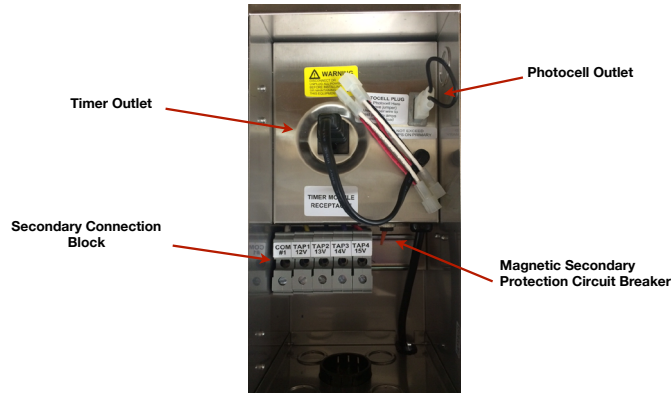

Figure 2: Voltage Drop Chart
1. 300W magnetic landscape transformer. 120V AC - 3A maximum primary voltage. Multi-volt secondary up to 15V. Large secondary connection block for easy wiring. Standard with mandatory secondary protection. Supplied with six (6) feet of the primary line cord. Timer and photocell ready (by others).
4. Power to the transformer can be supplied using either, included (6) foot 120V AC outlet plug or, 120V AC supply wiring run from a remote location.
5. Transformer must be mounted a minimum of (1) foot above grade.
8. Use [Figure 2] to estimate approximate max run length (ft) before voltage drop.